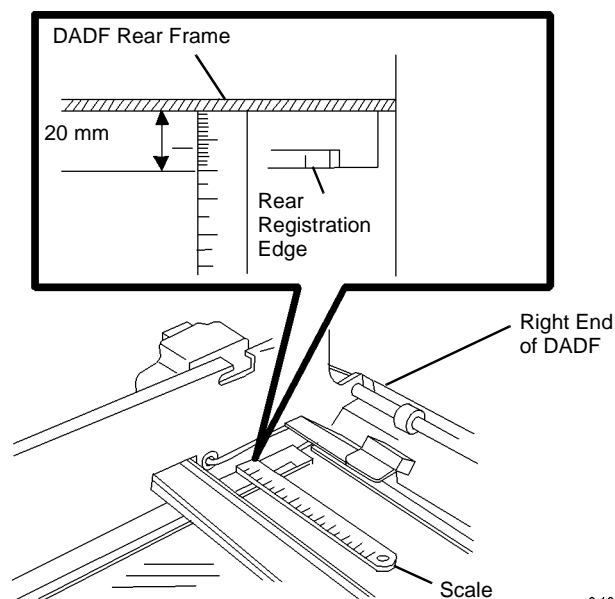

Figure 1 Checking DADF Parallelism
- b. Check that the distance between the DADF Rear Frame and the Rear Registration Edge is  $20 \pm 1$  mm (Figure 1).